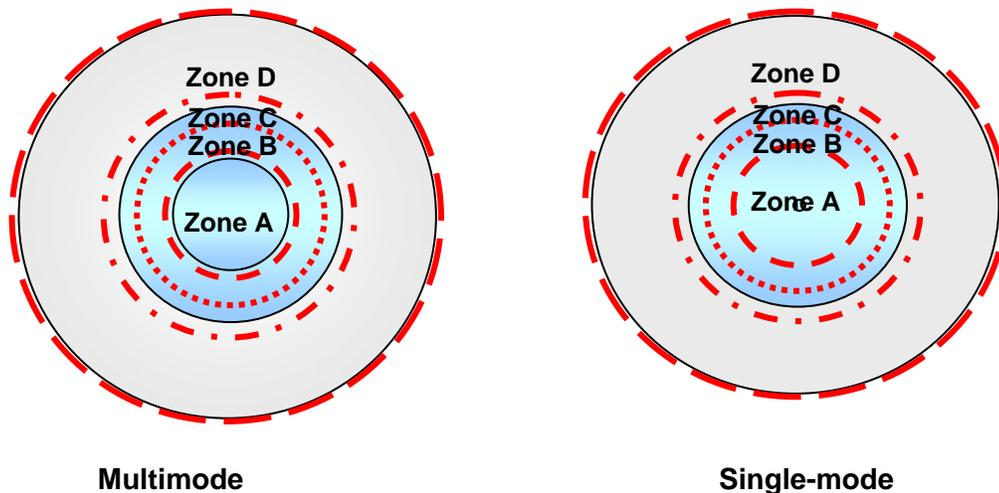

Figure 7-1 – Allowable Visual Inspection Criteria for Multimode and Single-mode Optical Fiber End Face
Step 2 - Using the Fiber Optic Video Probe or a hand held Fiber Optic Microscope inspect the terminus and or connector end face for contamination, chips, pits, scratches and shatters in the core and the inner two thirds of the cladding. See Figures 7-1 through 7-7.